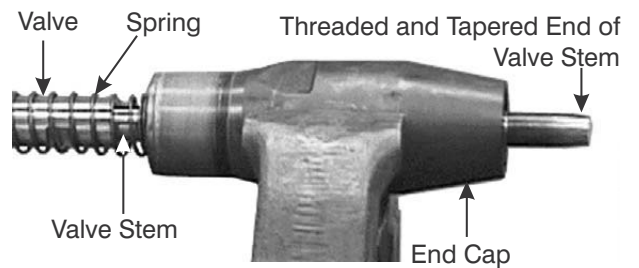

Figure 9-18. Valve Stem Threads
threads protrude from the other side of the End Cap (9). See Figure 9-18.